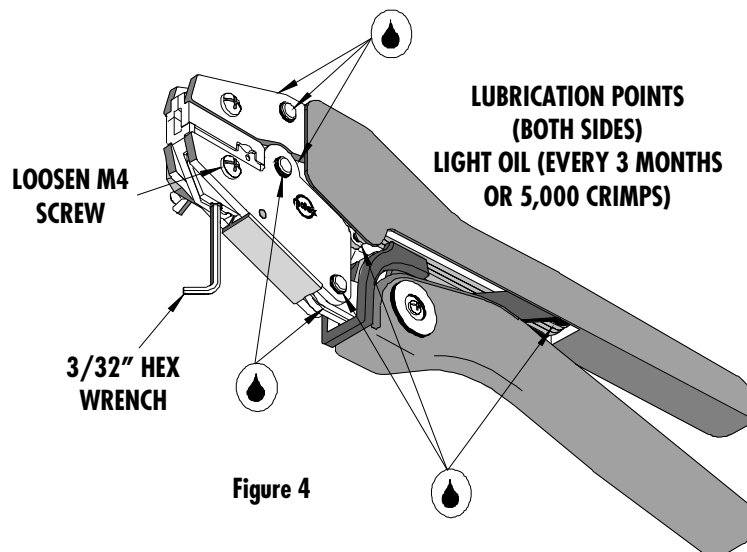

Figure 4
5. If the insulation part of the crimp needs to be adjusted, first loosen the M4 screw on the bottom tool jaw, then insert a 3/32 hex wrench (supplied) into the bottom of the lower die. See Figure 4. A clockwise (CW) rotation decreases insulation crimp while a counter-clockwise (CCW) rotation increases insulation crimp. After adjusting, retighten the M4 screw.
Do not oil excessively. The 64001-2800 was engineered for durability, but like any fine piece of equipment it needs cleaning and lubrication for a maximum service life of trouble-free crimping. A light oil, such as 30 weight automotive oil used at the oil points shown in Figure 4, every 5,000 crimps or 3 months will significantly enhance the tool life and ensure a stable calibration.